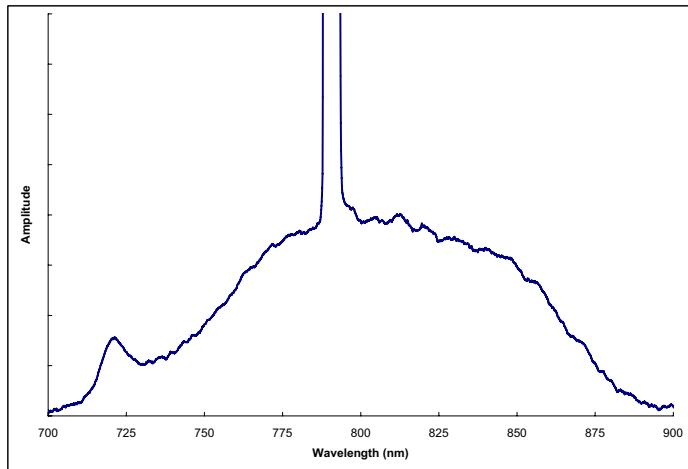

Figure 5-1. CW Breakthrough in the Micra Spectrum. The Spike at 790 nm is Due to CW Light (the shoulder at 720 nm is a normal part of the spectrum).
If too much glass is present in the cavity, a continuous wave (CW) spike will appear in the spectrum. An example of this is shown in Figure 5-1. This represents the upper limit of the attainable band-